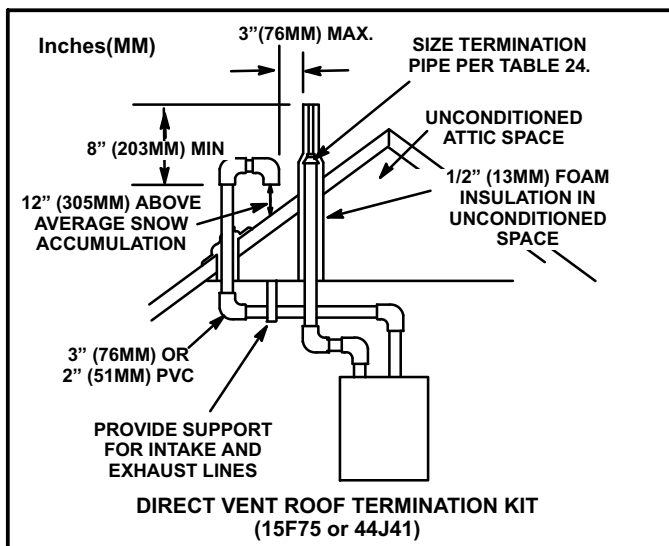

FIGURE 26
Intake and exhaust pipes may be routed either horizontally through an outside wall or vertically through the roof. In attic or closet installations, vertical termination through the roof is preferred. Figures 26 through 34 show typical terminations.
3. On roof terminations, the intake piping should terminate straight down using two 90° elbows (See figure 26).